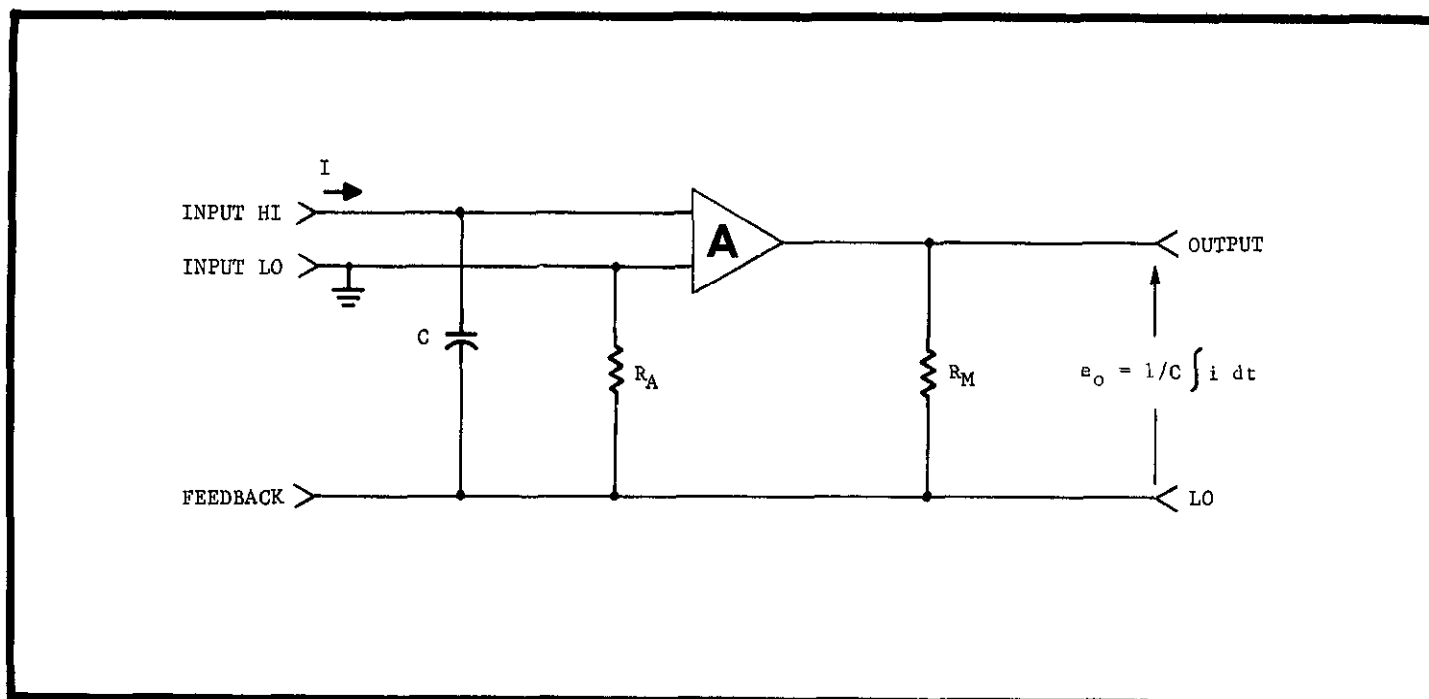

FIGURE 10. Equivalent Current Integrator.
1. Theory. The Model 640 operation can be illustrated as shown in Figure 10. In this configuration the DAMPING Control is set to "MAX" position so that a 20 pf capacitance is connected in the feedback loop (SHUNT RESISTOR Switch set to "OPEN"). The current measured is determined by the following equation,